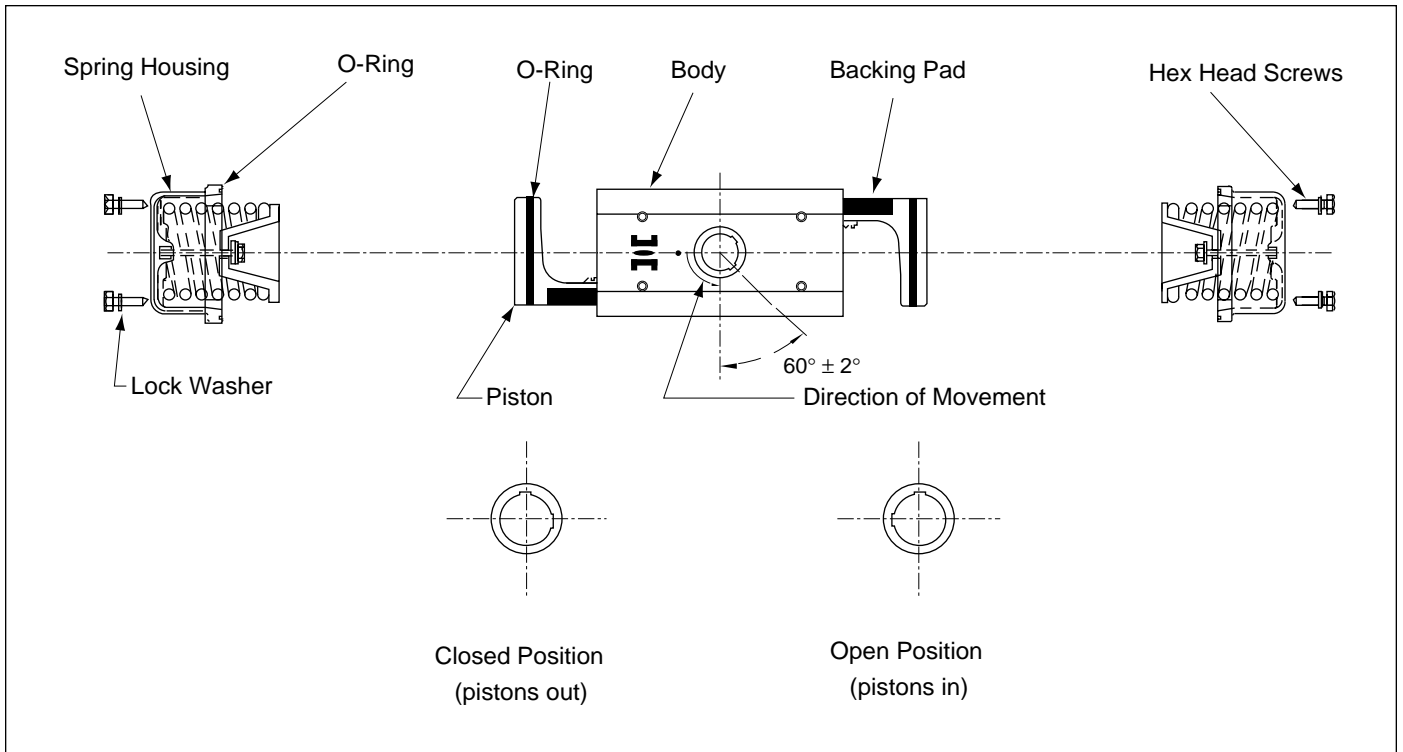

Figure 4 - Top view of (Fail Open) Single Acting Actuator Assembly - Models 003-036
8. a. Orient the output shaft keyways, as shown in Figure 4, page 7 or Figure 7, page 8.
- a. Orient the output shaft keyways, as shown in Figure 4, page 7 or Figure 7, page 8.